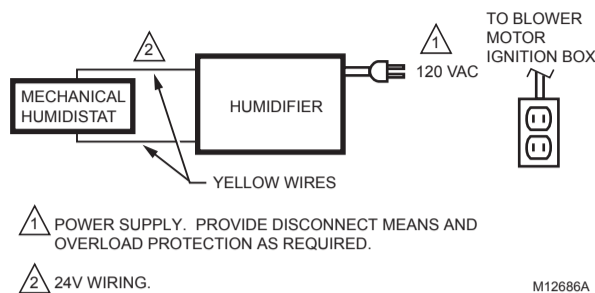

Fig. 5. Typical wiring diagram for humidifier using fan control to cycle blower motor fan and humidifier simultaneously.
13. Connect only the two yellow wires to the humidistat (red wire connections are not used for mechanical humidistats). See the typical wiring diagrams in Fig. 5 through 7.